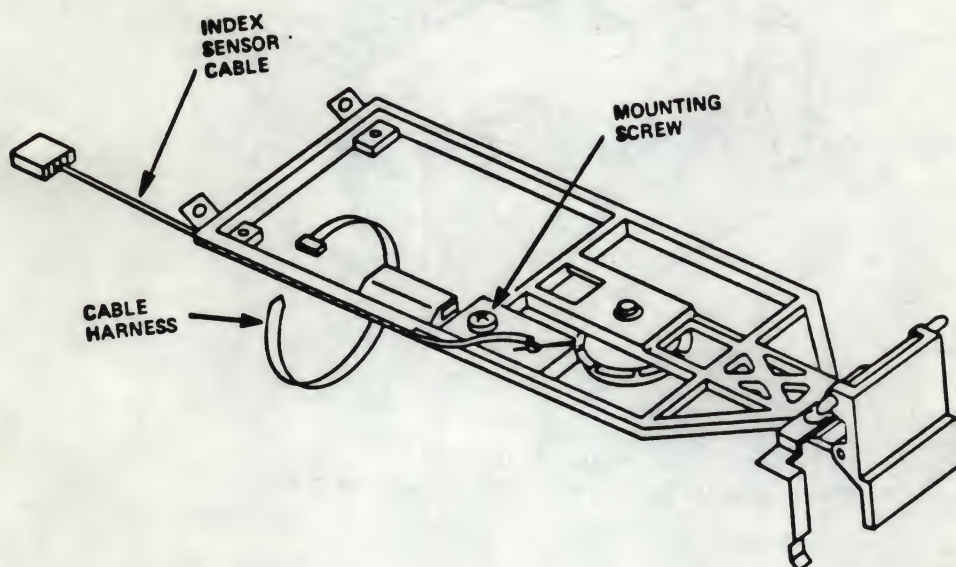

Figure 5-15
5.9.2 Remove the harness that attaches the index emitter sensor cable to the Cone Lever Assembly (see Figure 5-15).
5.9.12 After turning the disk drive upright, position all sensor cables (see Figures 5-15 and 5-17), and smooth them out.